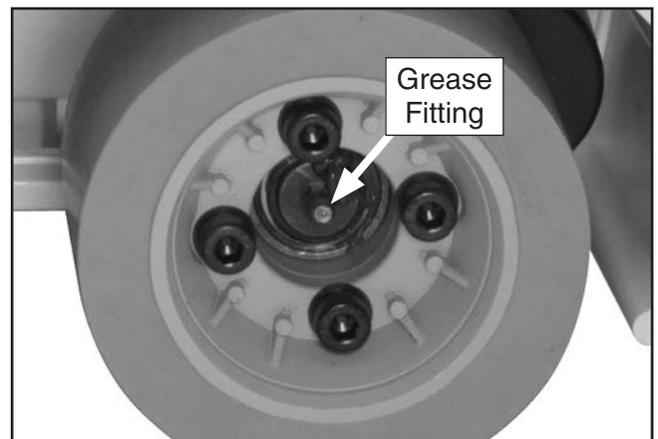

Figure 15. Wheel lubrication.
- Every 40 hours of use, or once every two weeks, wipe clean and lubricate the wheel grease fittings (see **Figure 15**) with one pump from a grease gun filled with automotive grade GL-2 grease.